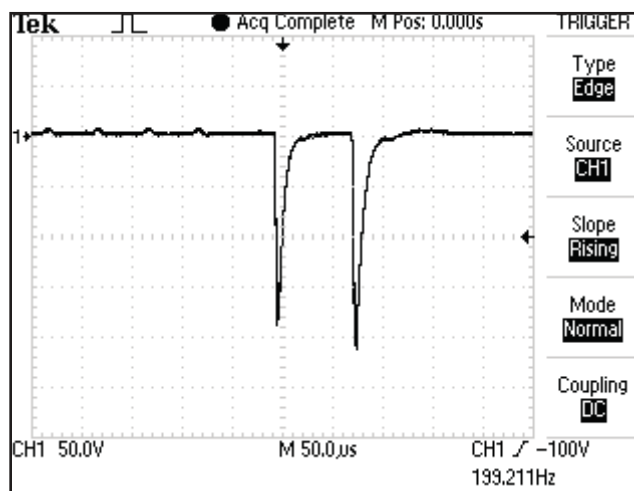

FIGURE 4.5
D. High Voltage Pulsed Current (HVPC)- Figure 4.5 (Vectra Genisys, Intellect Legend XT, and Intellect Vet)